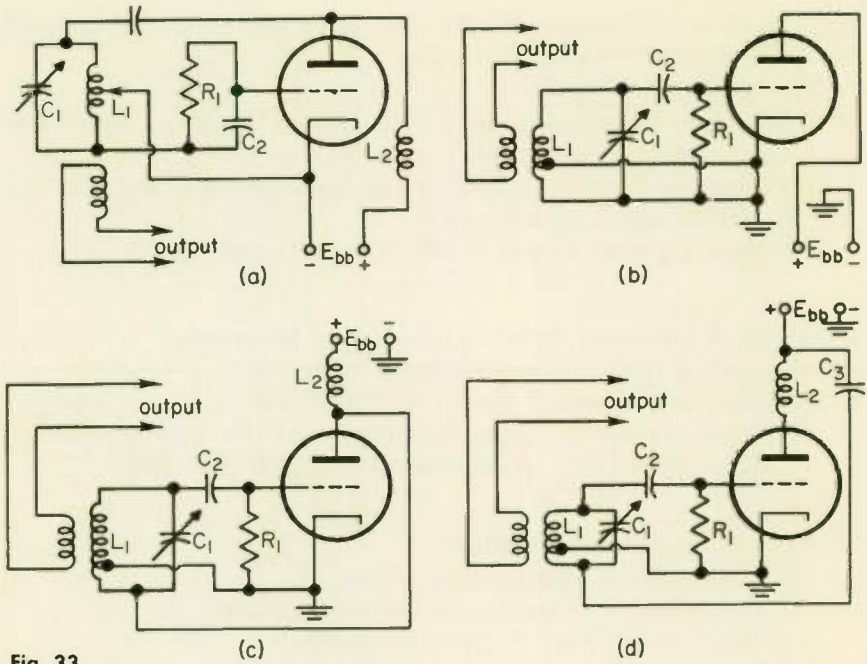

Fig. 33
- (1) 2449.192 kc
- (2) 2449.551 kc
- (3) 2450.449 kc
- (4) 2450.808 kc
- (5) 2494.917 kc
- (6) 2899.176 kc
(7) None of the above.
24. Which circuit of Fig. 33 (if any) shows a Hartley shunt-fed oscillator properly connected?